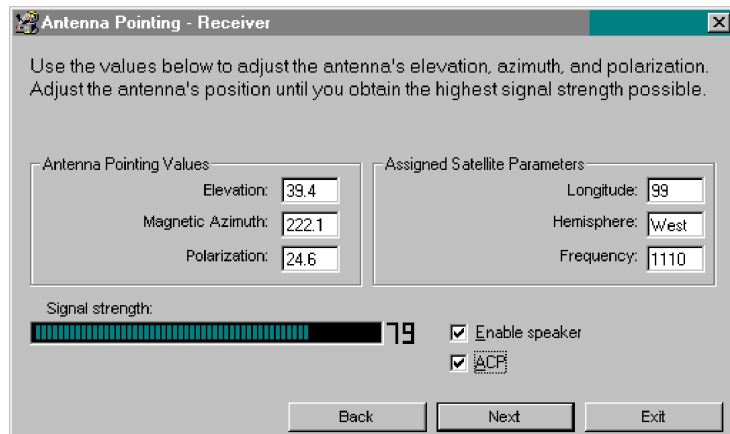

Figure 26: Antenna Pointing - Receiver
8. Verify the ZIP code matches the antenna location and select **Next**. The *Antenna Pointing - Receiver* screen appears. Check the Longitude, Hemisphere, and Frequency values. See Figure 26.